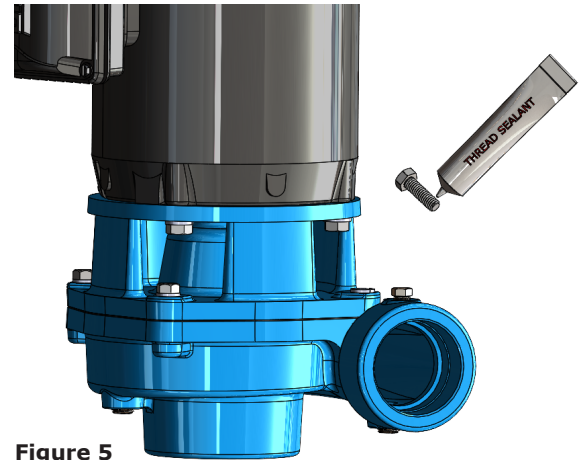

Figure 5
10. Apply thread sealant to case bolt ends and inside case threads (Figure 5). Thread sealant is not supplied with repair kits.